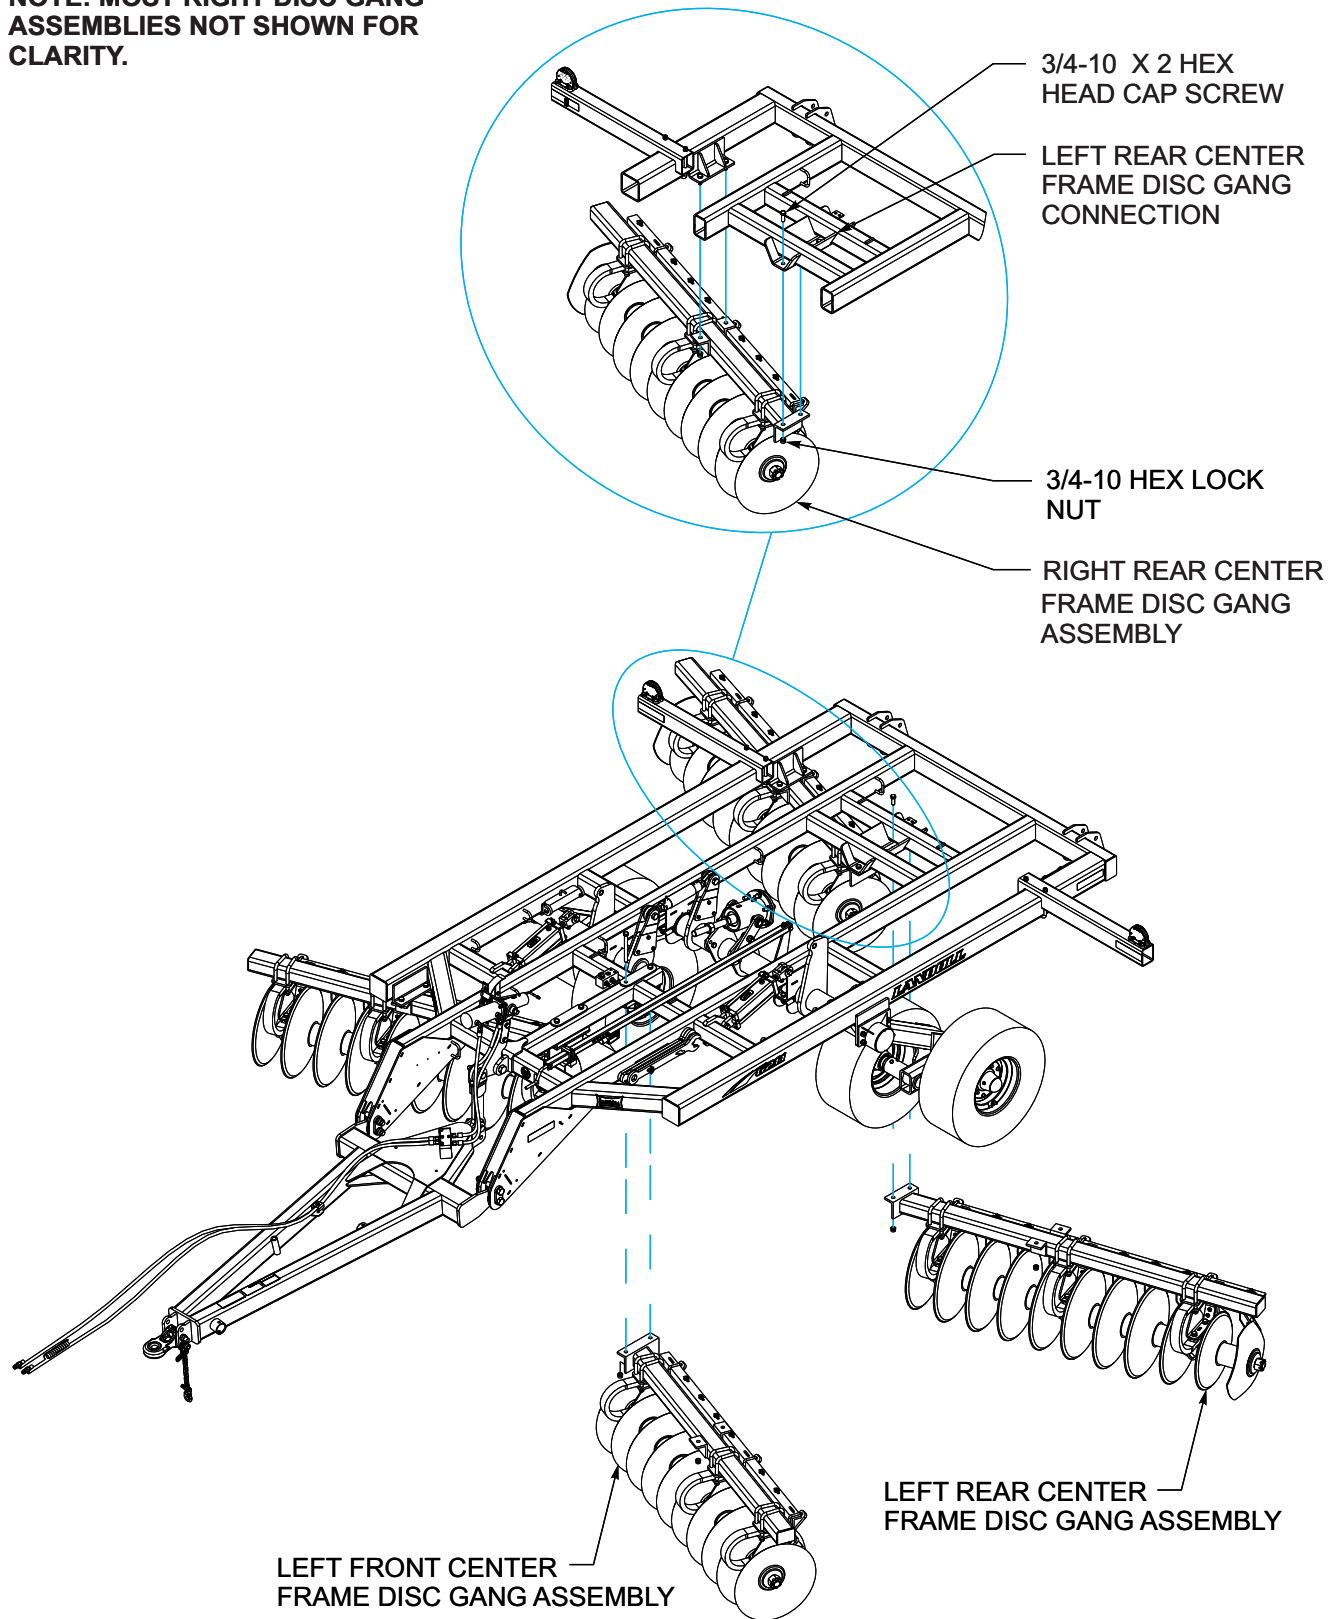

Figure 3-8: Disc Gang Installation
1. Attach the disc gang assemblies to the center section using 3/4-10 x 2 grade 8 hex head cap screws and hex lock nuts (**See Figure 3-8.**) Use a 3/4-10 x 2-1/2 grade 8 hex head cap screw, lubrication bracket and hex lock nut on each center front screws of the left and right front disk gangs.